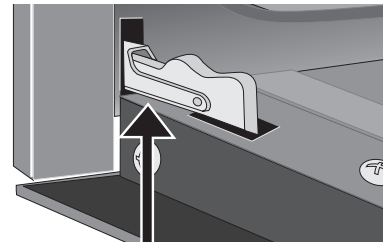
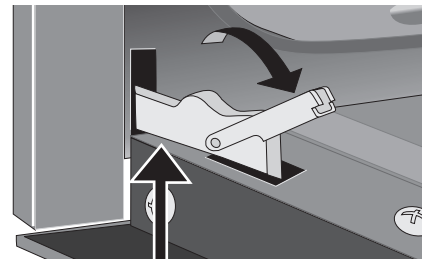

Figure 27: Hinge locked
Figure 28: Unlocking hinge
2. Pull up the lock located on each hinge support toward front of the oven until the lock stops. You may have to apply a little pressure on the lock to pull it up (Figure 27 and Figure 28).
4. Push the door hinge locks up toward and into the oven frame on both left and right oven door hinges to the locked position (Figure 27 and Figure 28).